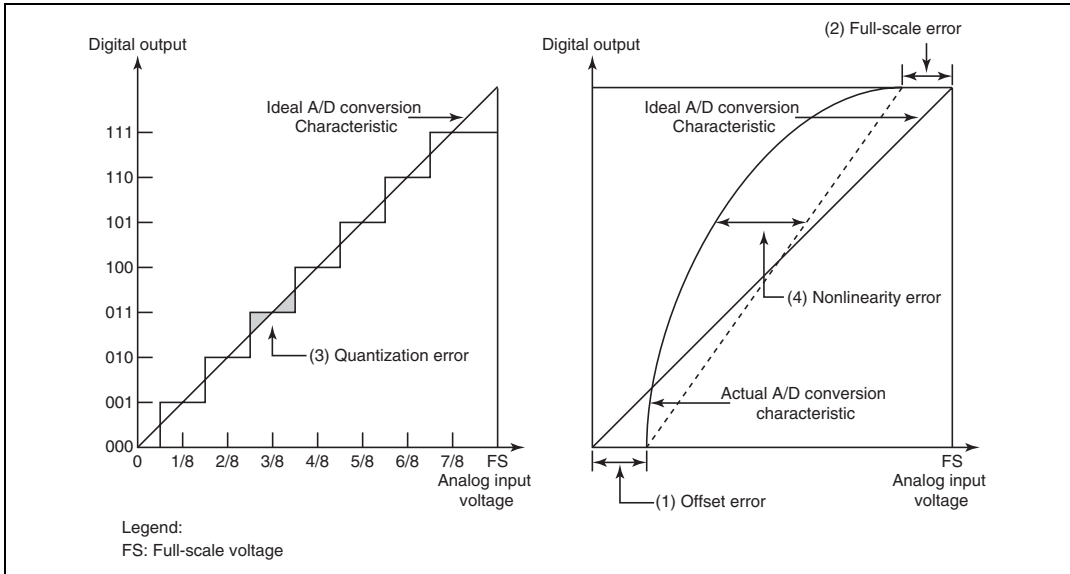

Figure 14.7 A/D Conversion Precision Definitions
- (1) Offset error
- (2) Full-scale error
- (3) Quantization error
- (4) Nonlinearity error
The above four kinds of error are described below with reference to figure 14.7. For the sake of clarity, this figure shows 3-bit mid-speed A/D conversion rather than 10-bit mid-speed A/D conversion. Offset error (see figure 14.7 (1)) is the deviation between the actual A/D conversion characteristic and the ideal A/D conversion characteristic when the digital output value changes from the minimum value (zero voltage) of 000000000 (000 in the figure) to 000000001 (001 in the figure). Full-scale error (see figure 14.7 (2)) is the deviation between the actual A/D conversion characteristic and the ideal A/D conversion characteristic when the digital output value changes from 111111110 (110 in the figure) to the maximum value (full-scale voltage) of 111111111 (111 in the figure). Quantization error is the deviation inherent in the mid-speed A/D converter, given by 1/2 LSB (see figure 14.7 (3)). Nonlinearity error is the deviation between the actual A/D conversion characteristic and the ideal A/D conversion characteristic from zero voltage to full-scale voltage (see figure 14.7 (4)). This does not include offset error, full-scale error, and quantization error.